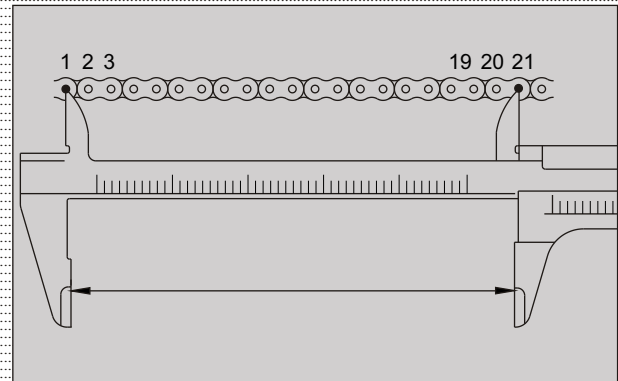

Fig. 2.100
- Count 21 pins on the chain assembly drive and measure the distance between 20 pitch. (Fig. 2.100) If measured distance exceeds the service limit, replace the chain with a new one.